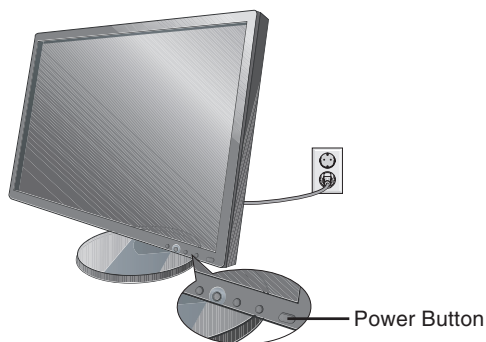

Figure C.1
6. Connect the power cord to the power outlet (**Figure C.1**).
7. Turn on the monitor with the front power button and the computer (**Figure C.1**).